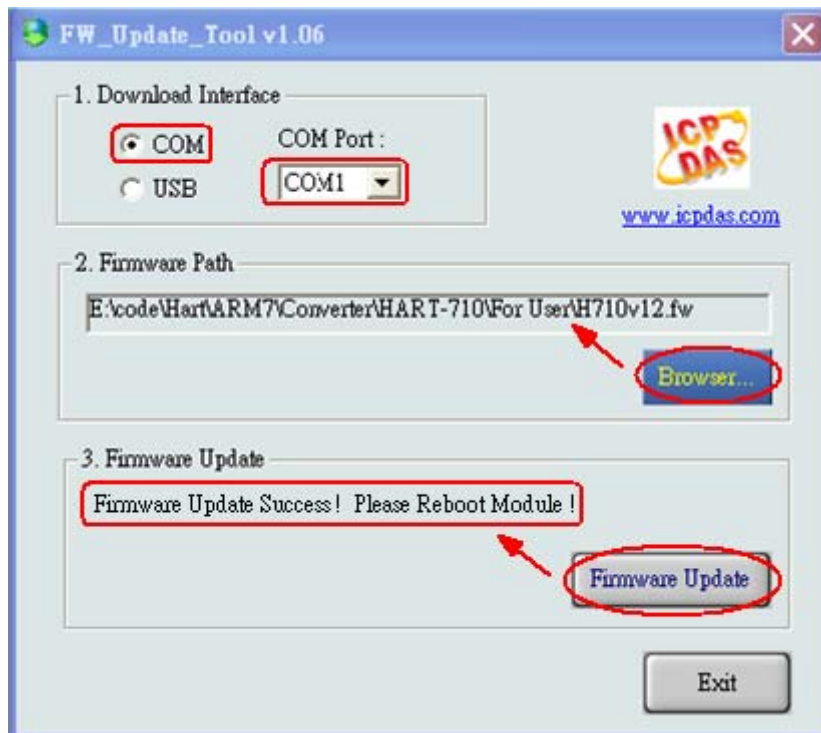

Figure 4-3 “FW_Update_Tool”
(4) Run “**FW_Update_Tool**” like Figure 4-3 (Download from : ftp://ftp.icpdas.com/pub/cd/fieldbus_cd/hart/gateway/utilities/fw_tool/).